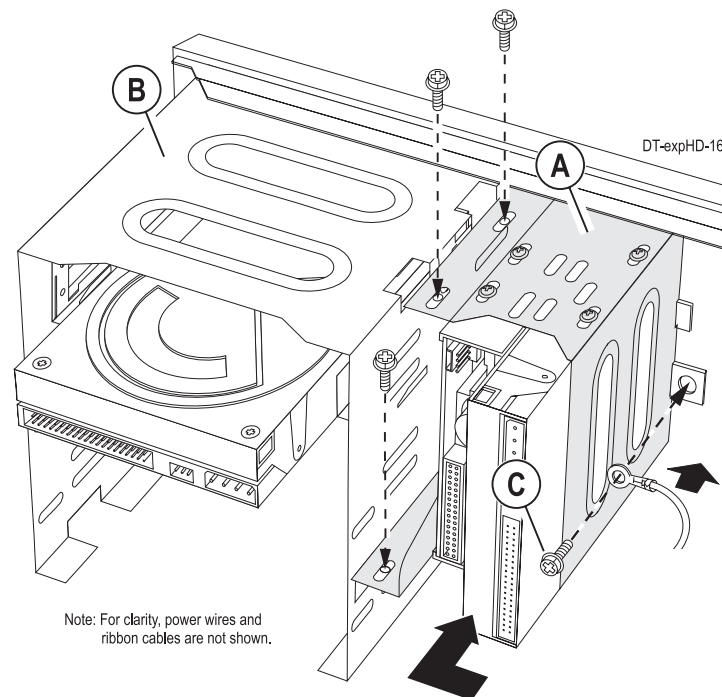

Figure 9
- Refer to Figure 9. Using the screws that you previously removed, re-attach the hard drive/floppy drive bucket assembly to the side of the expansion hard drive cage. If you disconnected a green “chassis ground” wire, re-connect it using the screw that was previously removed (part C on Figure 9).